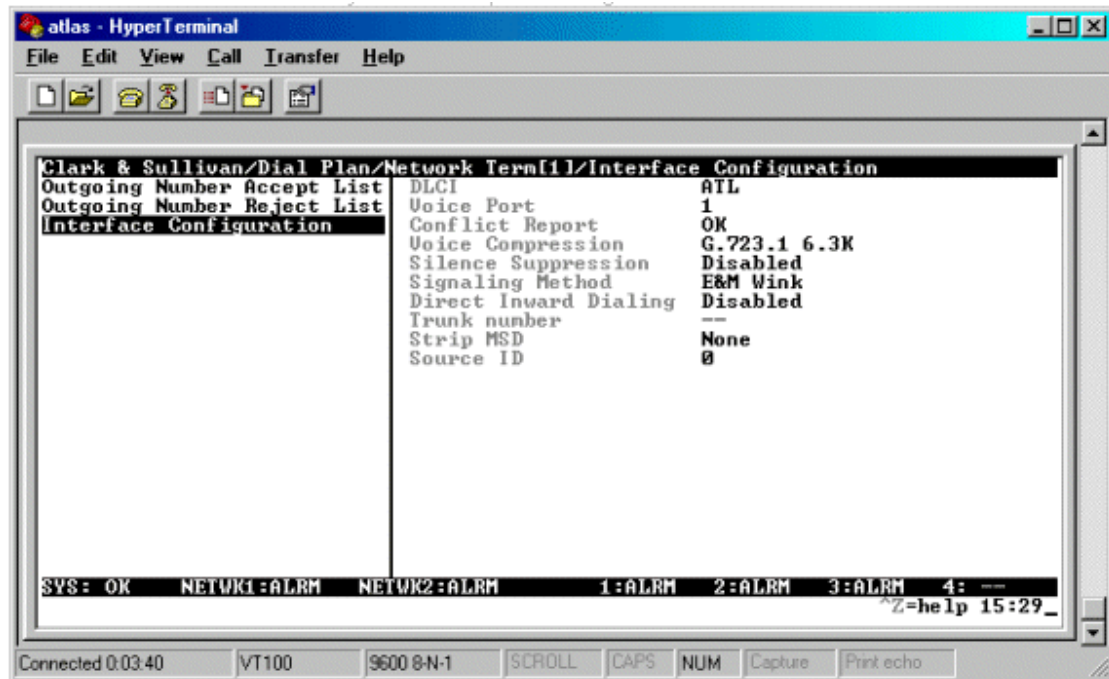

Figure 13
6. Move to the **Ifce Config** field and press <enter>. **Figure 13** shows the **Ifce Config** screen.